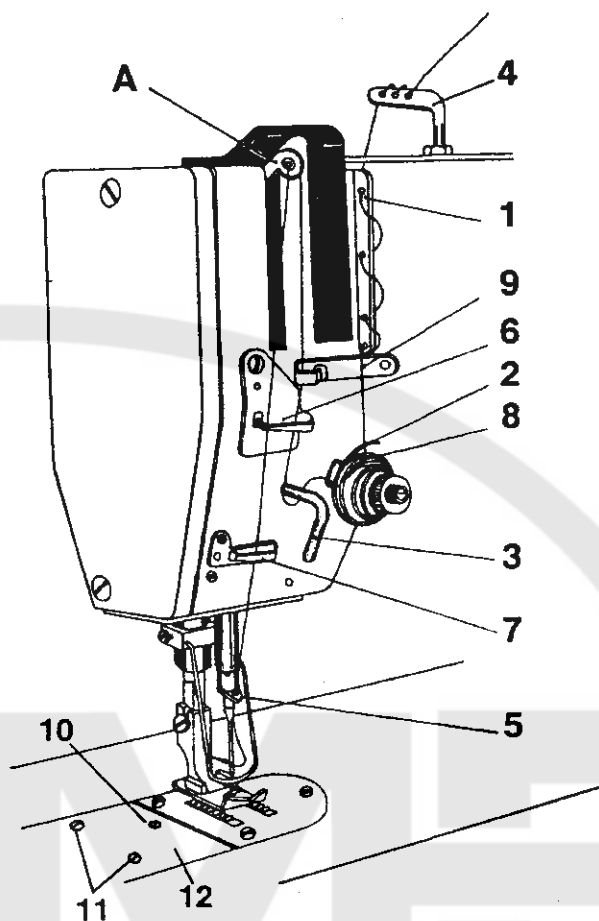

Figure 5
9. To thread the upper thread (Fig. 5)
26. To adjust the stationary knife for correct thread trimming (Fig. 5)